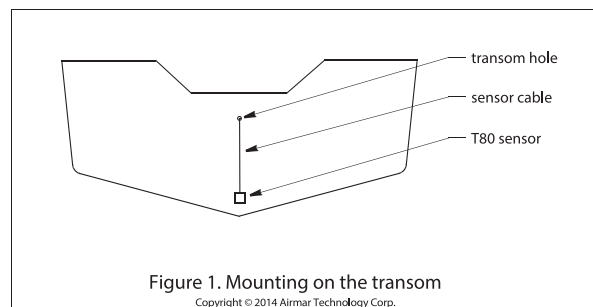

Figure 1. Mounting on the transom
1. Remove the hull nut (see Figure 1).
2. Push the sensor into the mounting hole using a twisting motion to squeeze out excess marine sealant (see Figure 1).
CAUTION : Mount the sensor as close to the centerline (keel) of the boat as possible to ensure the sensor remains in the water when the boat is turning (Figure 1).